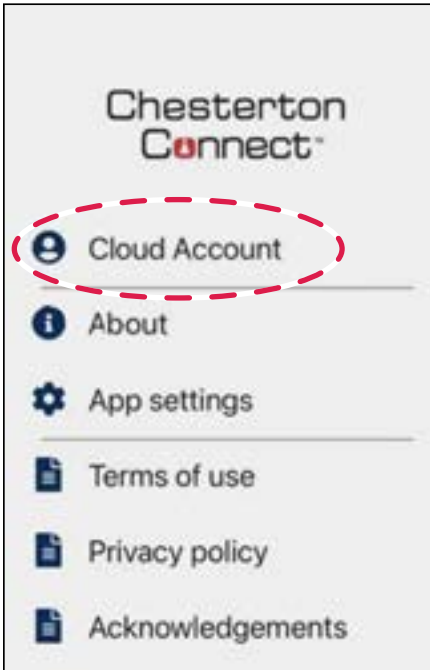

Figure 33
1. Open app, select **Cloud Account** (see figure 33).